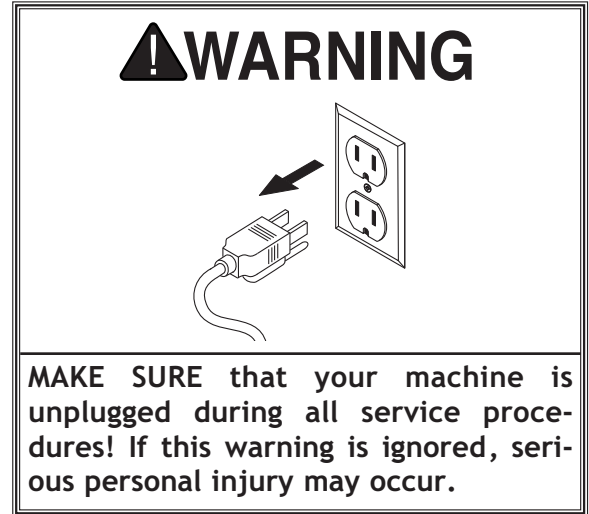

Figure 14. Fuse holder cap on the control panel.
2. Unthread the fuse holder cap from the control panel (see Figure 14) and remove it. The fuse will come out with it.